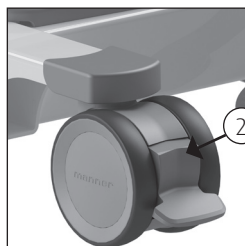

Figure 2 Deactivate wheel lock
- To unlock the Lotus / Lotus compact / Lotus XL, move the same brake lever on the wheel upward. Both in the seated position and in the swiveled-away position, the seat components are lightly clamped. This prevents the seat from rotating away when the client sits on the Lotus (2) (see figure 2).